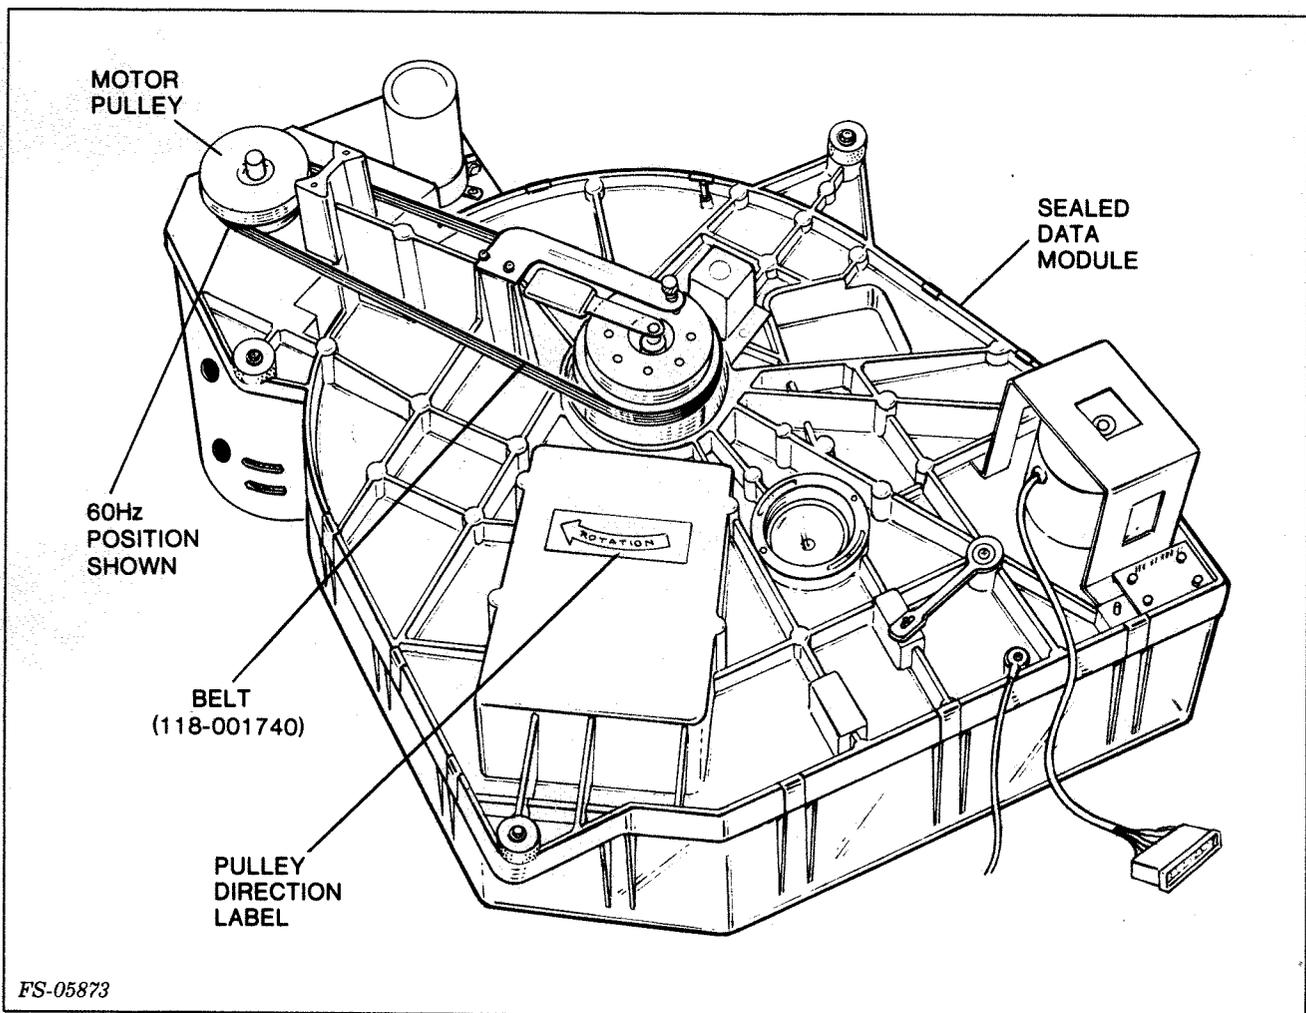
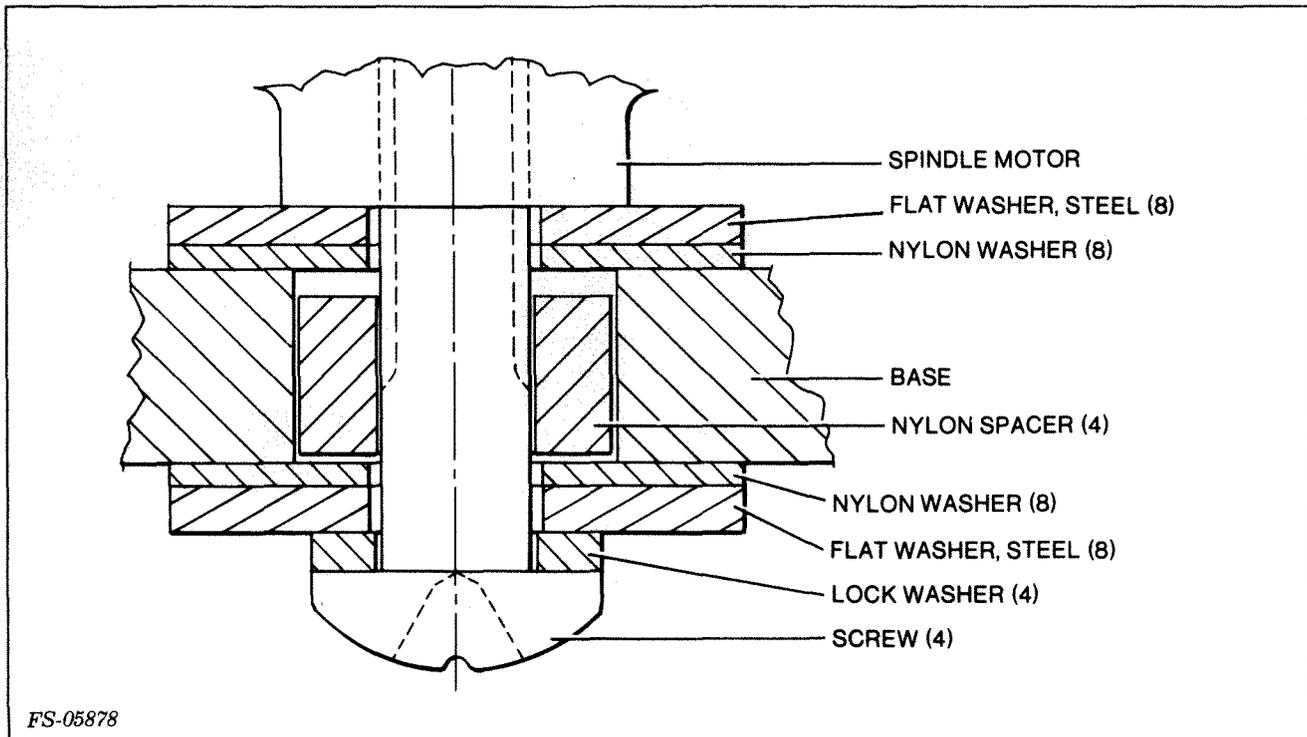

Figure 5-4. Sealed Data Module Belt Replacement
Figure 5-9. Spindle Motor Mount Assembly
2. Turn the sealed data module pulley clockwise (see Figure 5-4) and apply downward pressure on the belt until the belt slips off.
8. Unscrew the four 8/32 x 3/4 screws (see Figures 5-4 and 5-6) that hold the spindle motor to the casting and remove the spindle motor. Remove the washers and insulators shown in Figure 5-9.
9. Place the new spindle motor on the casting. Replace the washers, insulators and screws (see Figure 5-9). Tighten screws.